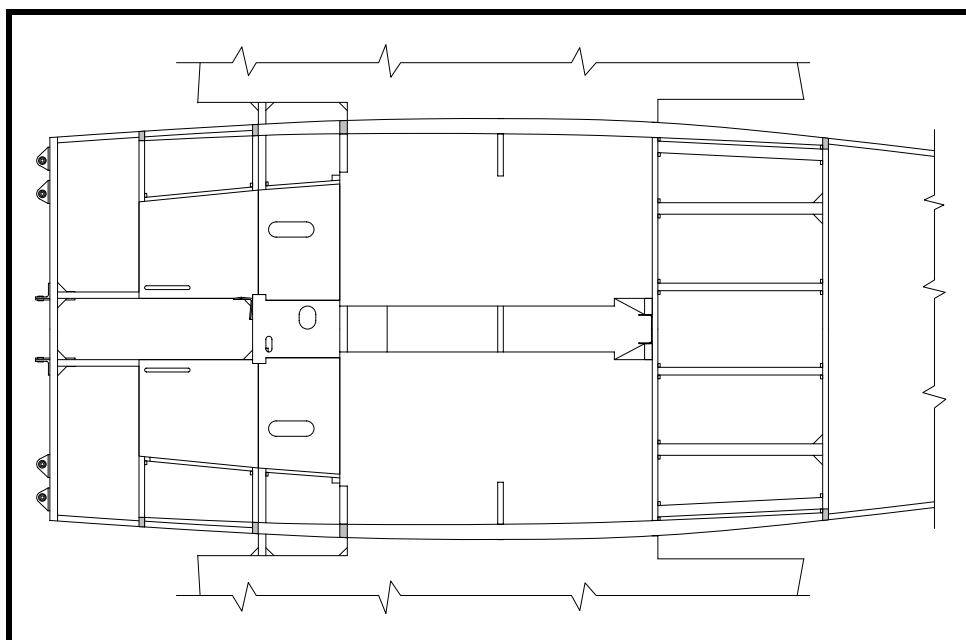

Figure 20
- ❑ Fit and install the flooring between Sta. 2 and 3. Cut the holes for the rudder cables. Leave 10mm on the outboard edge for the gluing strips for the cockpit side walls. See Figure 20.